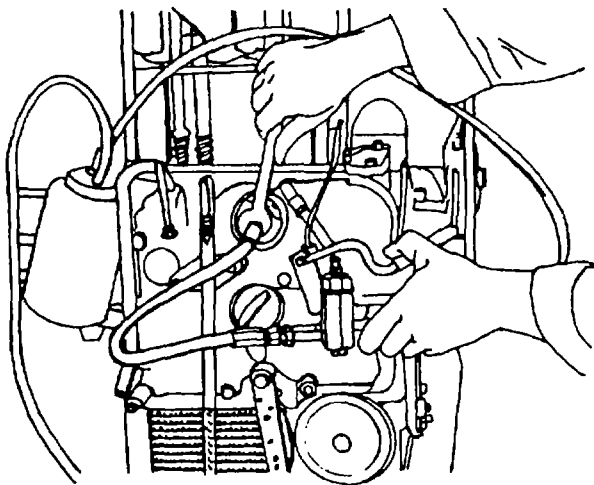

Figure 4-40. Connect HP Hand Feed Pump
6. Connect the HP hand feed pump and connect the reserve tank to the hand pump. Fill the tank with fuel (figure 4-40).